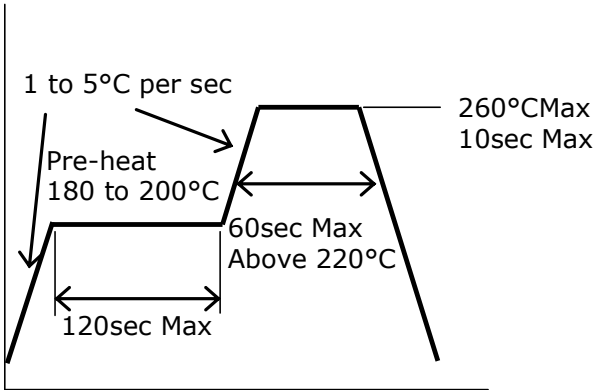

Figure 10. Recommended Reflow Soldering Condition (Lead-free Solder)
- Using the recommended reflow soldering conditions (See Figure 10 to the left) as a reference, modify if necessary, the recommended reflow conditions specified by the manufacturer of the solder paste being used.